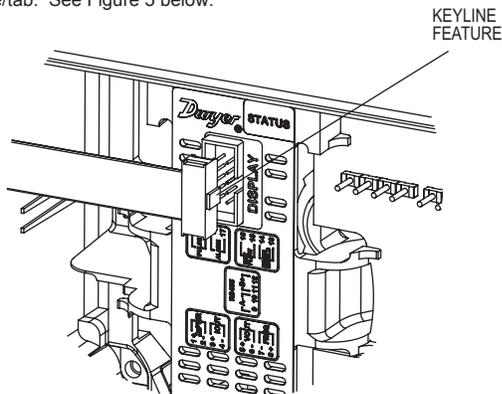

Figure 5
6. Insert one connector of the ribbon cable supplied in the setup kit into the connector labeled "Display" in the middle of the unit. Be sure to orient the keying feature. See Figure 5 below: